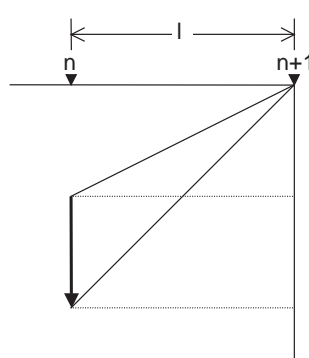

Fig. 2.3
(3) In feeding from division $n+1$ to n when the machine is in the negative direction from the reference position, as shown in Fig. 2.3,